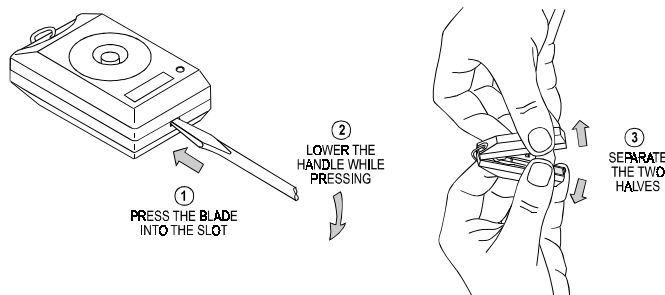

Figure 2. Opening the Case
A. To open the case, refer to Figure 2. Insert an 1/8 inch screwdriver blade in the slot at the bottom of the case. Press the blade inward, applying moderate pressure, and while pressing, swing the handle slightly down until the covers partially separate.